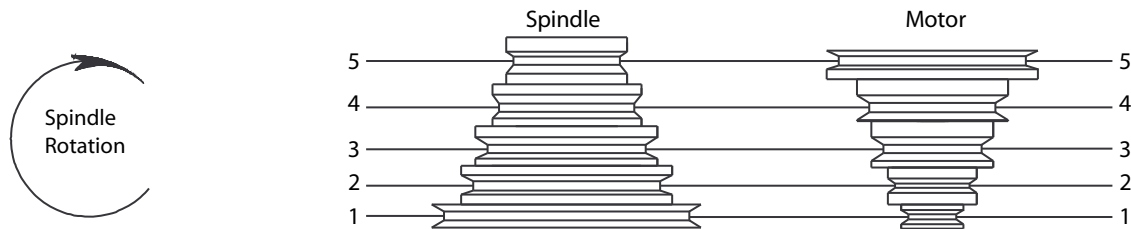

Figure 17 – Spindle Speed Adjustment
- To change spindle speed, loosen motor lock knob (see Figure 14), and push the motor toward front of drill press. This will loosen the belt and permit relocating the belt to the desired pulley groove for the required spindle speed (See Figure 17).